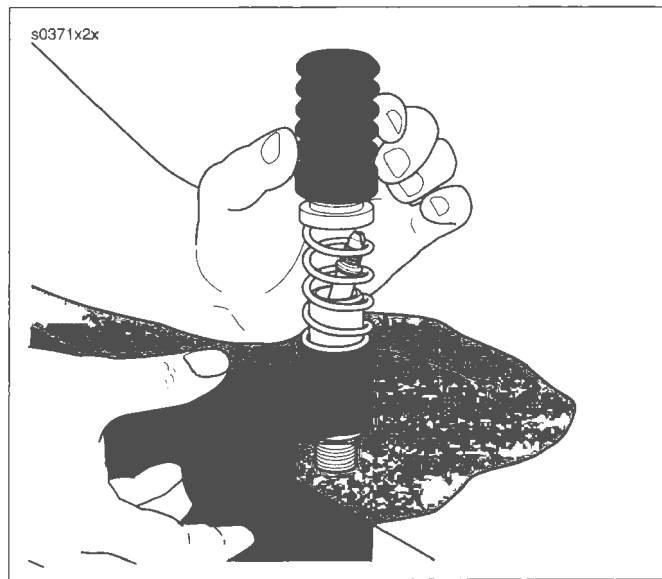

Figure 2-60. Master Cylinder Assembly
11. See Figure 2-60. Install spring over push rod and cartridge body until it contacts side of large retaining ring.